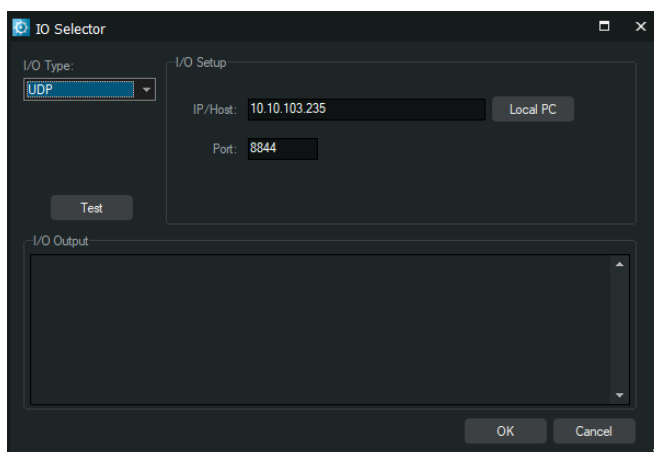

Figure 5 IO Selector view to manually establish connection to the ScanFish
Choose between different ScanFish on the network or try to manually connect to a ScanFish via the **Manually enter IP** option. When you establish connection to the ScanFish manually, you first select the I/O Type. Thereafter, you type in the IP for the ScanFish, which is the standard 10.10.103.XX(X) IP address, where XX(X) is the last two or three digits on the controller – as in Figure 5. The port number is standard set to 8844.